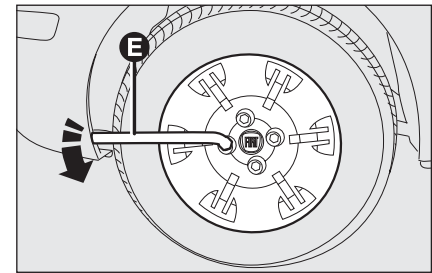

fig. 4
- loosen the bolts on the wheel to be replaced with the tool **E**-fig. 4 provided;